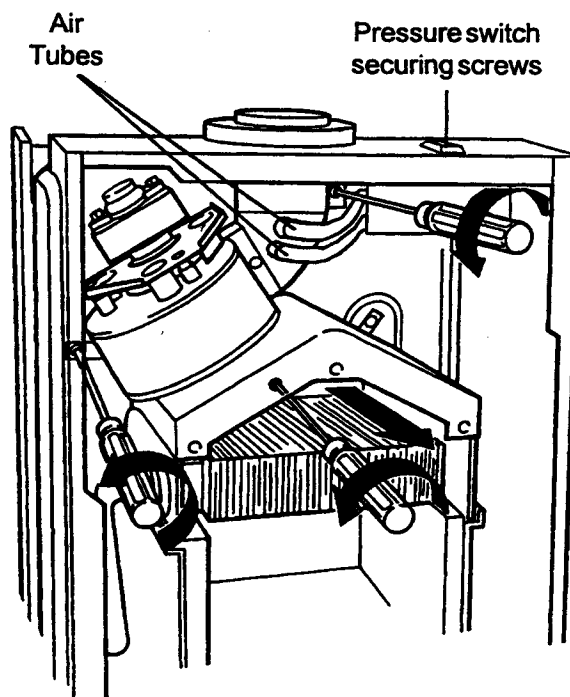

Fig. 29
Refer to fig. 29.
- 8.9.4 Unscrew maintenance clip securing screws and remove clip (fig. 29)
- 8.9.6 Remove 3 flue hood retaining screws. fig. 29
- Refer to fig. 29
- 8.10.2 Remove 2 pressure differential switch securing screws (fig. 29).